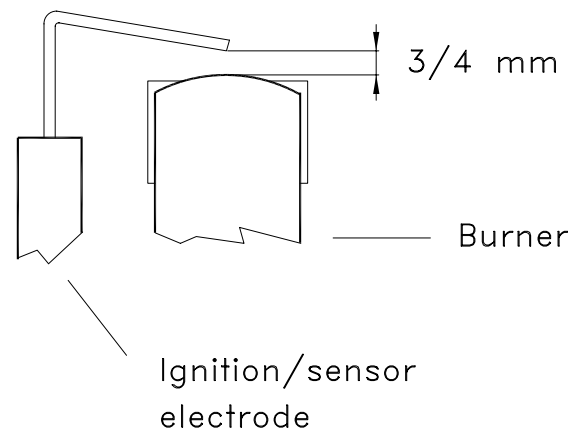

Fig. 38
7.2.6 Inspect the burner and remove any deposit with a soft brush Check the electrodes for damage or deterioration, clean or renew as necessary. Ensure that the spark gaps are correct to dimensions specified in fig. 38.